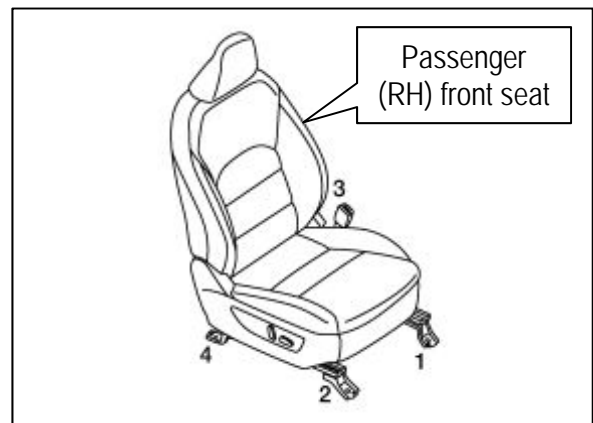

Figure 19
HINT: When installing the passenger (RH) front seat, tighten the bolts to specification in the order shown in Figure 19.